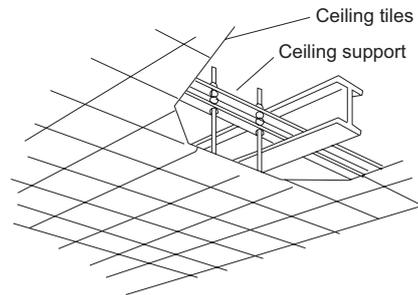

Fig. 1-36
- Use existing ceiling supports or construct a suitable support as shown in Fig. 1-36.